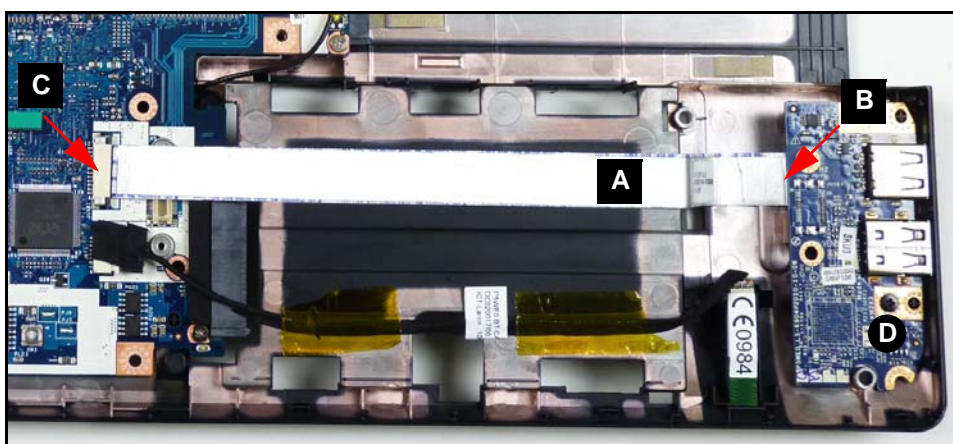

Figure 3-27. USB 2.0 Module
2. Remove screw (D) from lower cover (Figure 3-27).
2. Install module FFC (FPC, Figure 3-28) (A) to mainboard connector (C). (Figure 3-27)